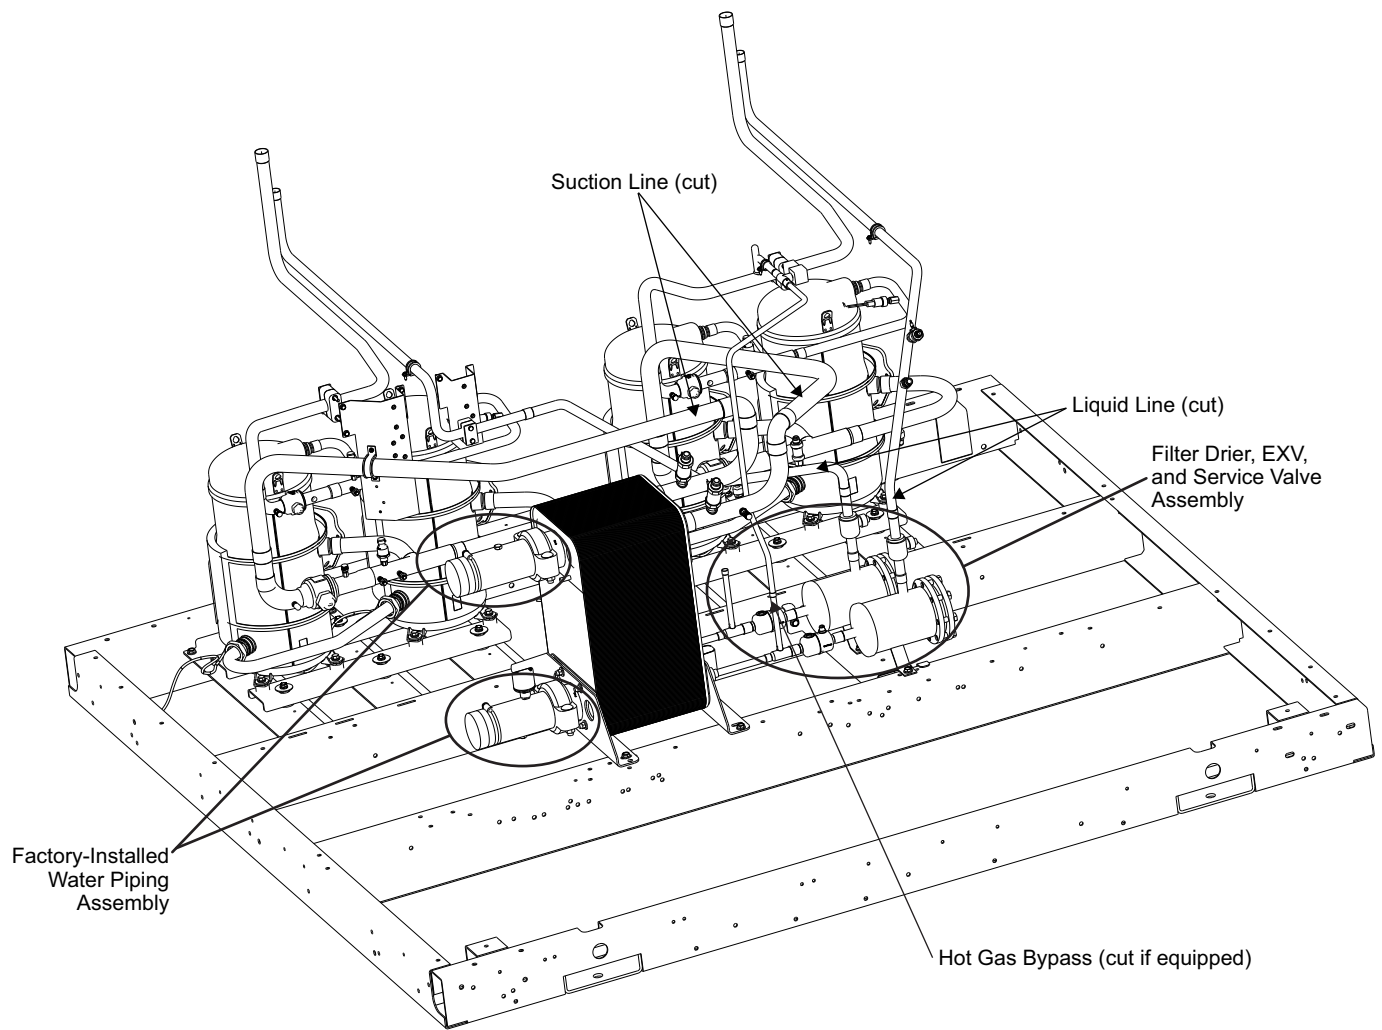

Fig. 4 — Typical Unit Evaporator Piping
11. Cut suction, liquid, and hot gas bypass lines (if equipped) in area shown in Fig. 4. Remove evaporator as well as the filter drier, EXV, and service valve assembly from unit. It is not recommended to separate the filter drier, EXV, and service valve assembly from the evaporator. Cut the liquid line in a
12. Transport the evaporator, factory-installed water piping assembly, and filter drier, EXV, and service valve assembly to the new location using the lifting holes shown in Fig. 2 and 3, and bolt it in place. Make sure the new location can support the weight of the evaporator while operating. Install evaporator vertically as shown in Fig. 4. If the filter drier, EXV, and service valve assemblies were separated from the BPHE, ensure there is enough room to install them at new location. Refer to Fig. 5 for filter drier, EXV, and service valve assembly dimensions.